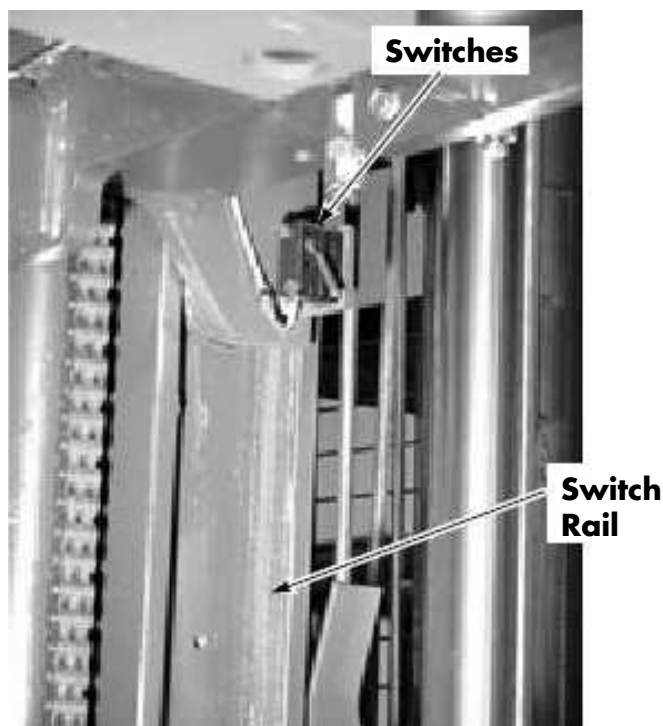

Figure 7-179. Underside of Carriage
3. Make sure the two switches (S36 and S37) at bottom of carriage are riding on their switch rail correctly. See Figure 7-179.